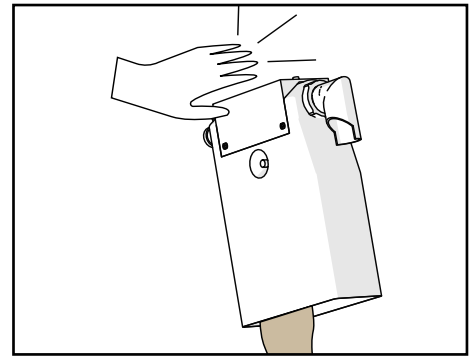

Figure 64.
1. Empty the canisters (see Figure 64).